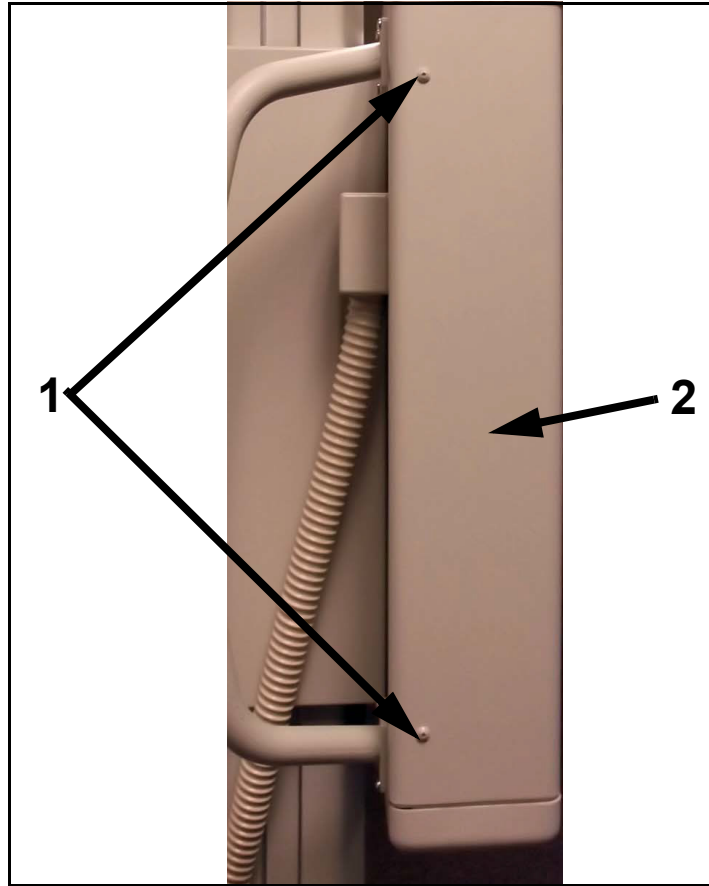

Figure 6-23. Left Side Panel & Front Panel
- 6 Unscrew the two left side cover screws (1 in Figure 6-23) and remove the side cover (2).